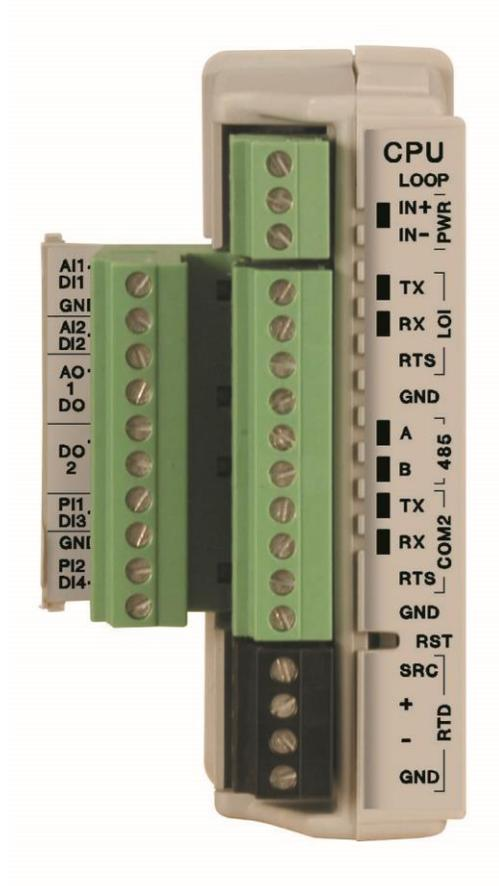

Figure 1-4. CPU
- Optional CPU I/O assembly and terminations (see *Figure 1-4*).